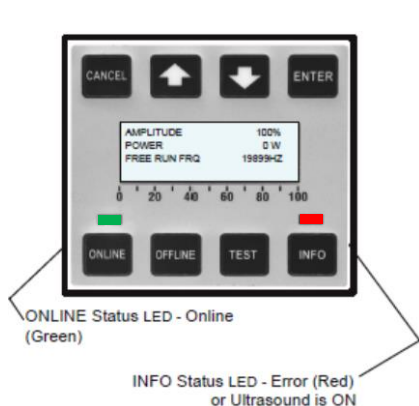

Figure 7 - 1. Status LEDs
1. Make sure that the **ONLINE** status LED is GREEN. If the generator is **OFFLINE**, press the **ONLINE** key (See Figure 7 – 1);